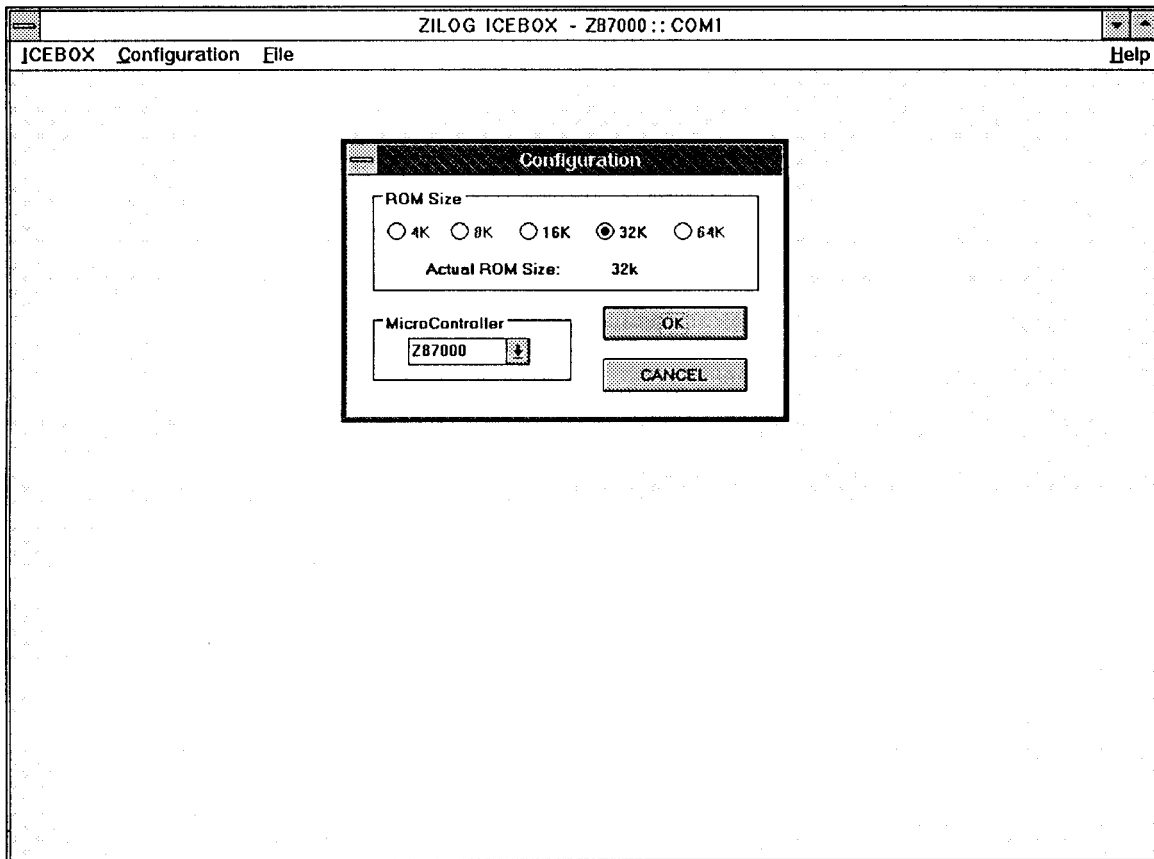

Figure 3-1. Zilog ICEBOX Configuration Dialog Box
4. Select the emulator ROM size, which affects the size of the code file that you can download (refer to Figure 3-1, which shows this value as "32K").
6. "Z87000" is automatically selected and displayed in the MicroController List Box, which is a part of the Configuration Dialog Box (see Figure 3-1).
Note: The emulation ROM size is automatically indicated (see Figure 3-1, which shows this value as “32K”).